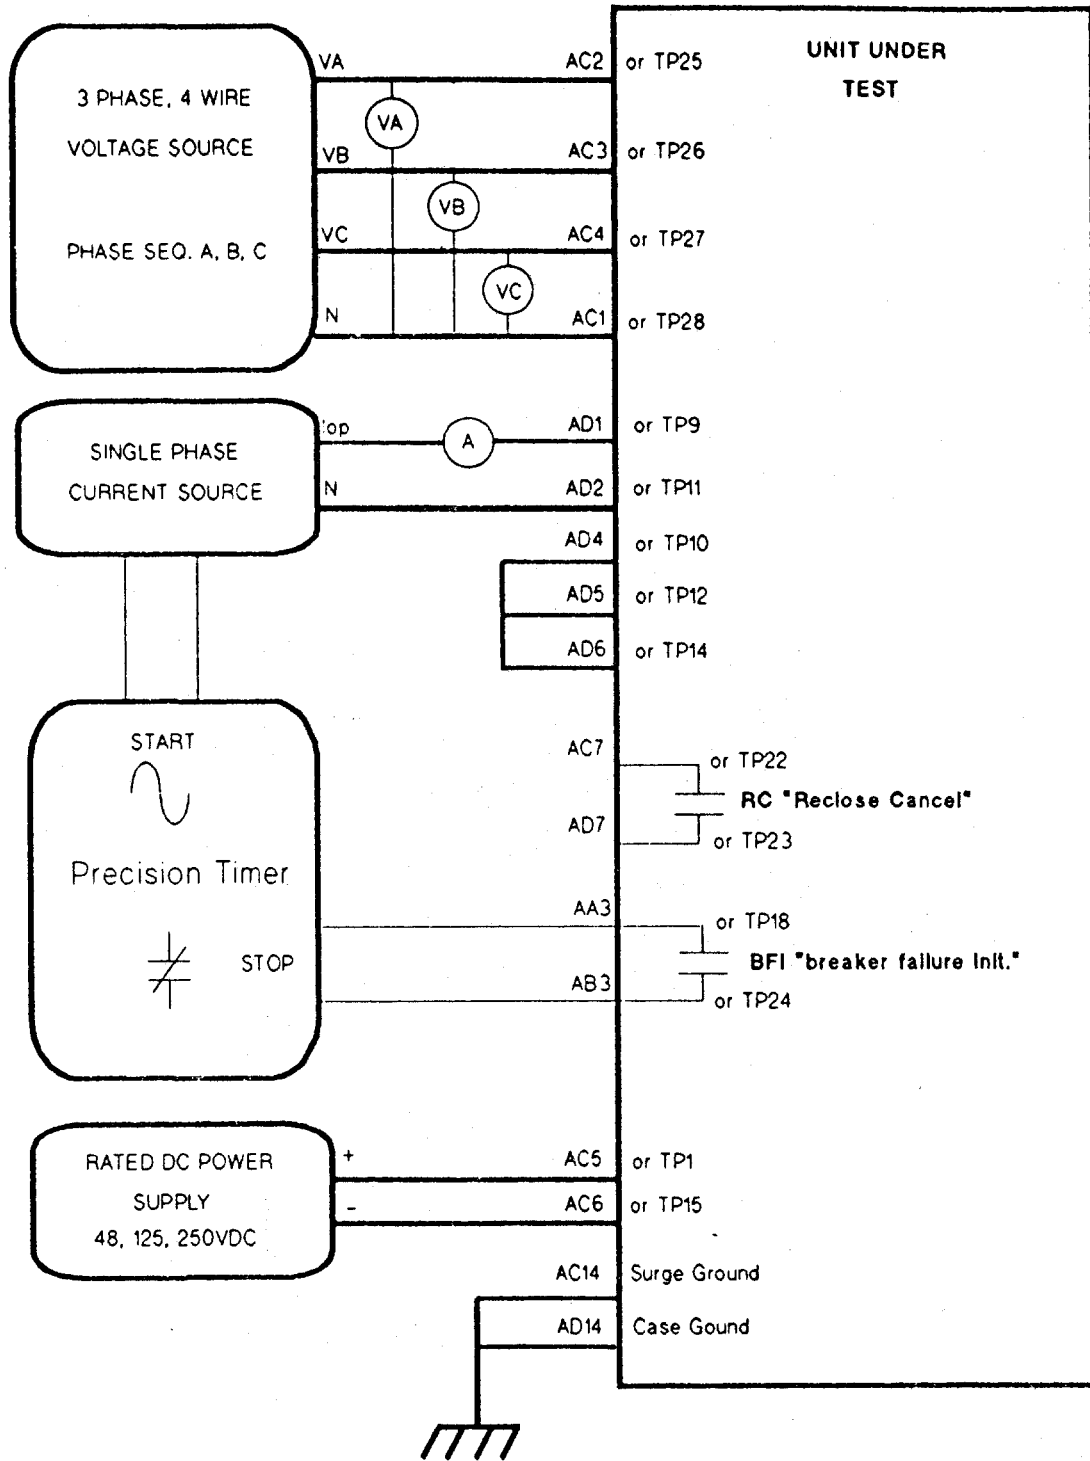

Figure AT-5 (0286A1822 [2]) Phase Reach Timer Test Connections
1. Connect the relay as shown in Figure AT-5, for an AB fault. Set the relay into Test mode with ZONE 1 selected: ZONE 1 ON.
4. Stop the timer when the BFI contact closes, and reduce the fault current to zero (0). Verify that the trip target indication shows a ZONE1 trip, such as: AB Z1. This verifies that the primary zone picked up.